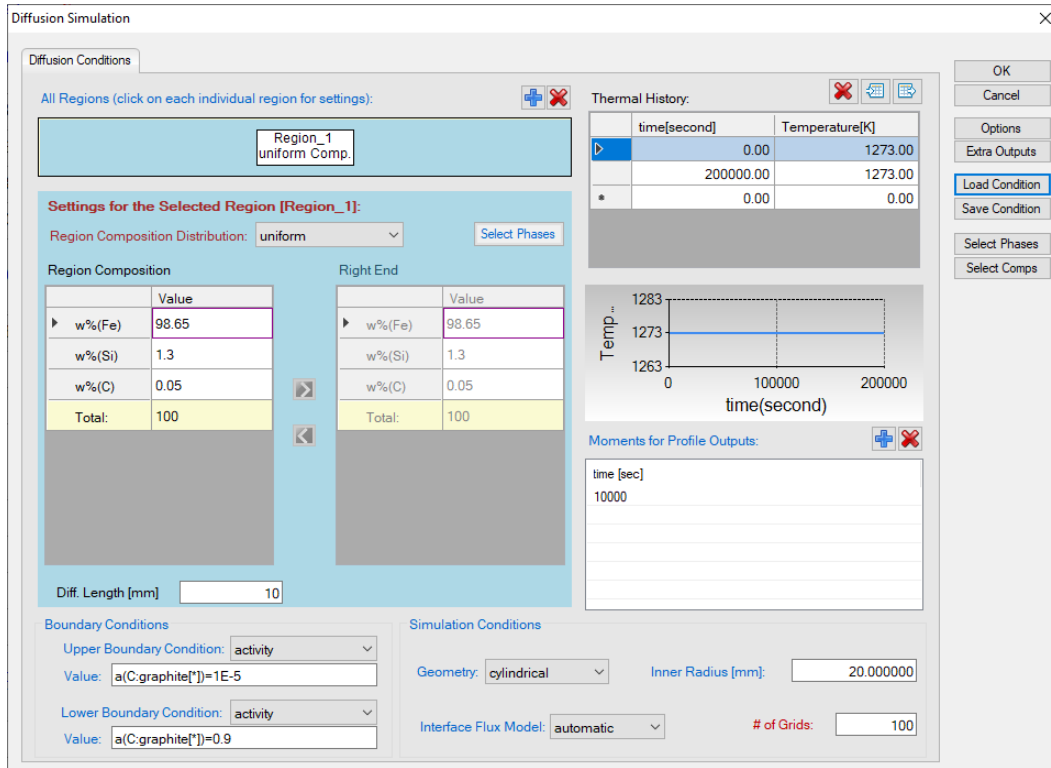

Figure 4.8.1: Setting of the simulation condition
- Click on "PanDiffusion->Diffusion Simulation" and set up the calculation condition as shown in Figure 4.8.1. First click the red "X" above Regions setting to delete Region_2. Click on Region_1, set the composition as 0.05C-98.65Fe-1.3Si (wt%), the Diff. Length as 10 mm, and the # of Grids as 100.
- In the setting shown in Figure 4.8.1, composition profiles at the initial and final stages, as well as at 1E4 s, will be outputted. Click OK to perform calculations.